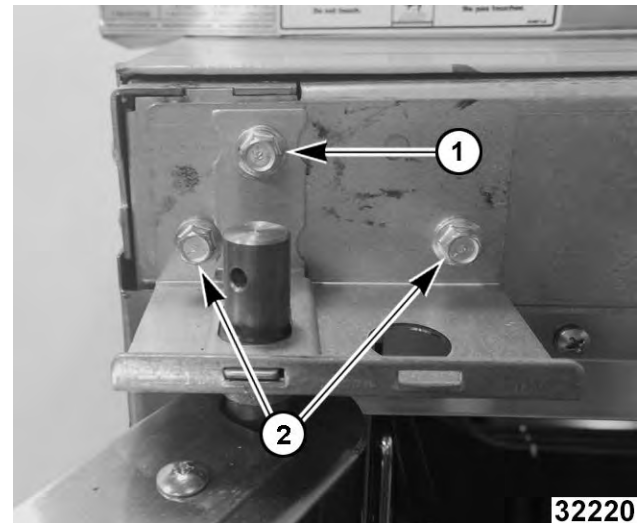

Fig. 42
6. While supporting door, remove hex head bolts holding upper bearing retainer (1, Fig. 42) and upper shaft bracket (2, Fig. 42).